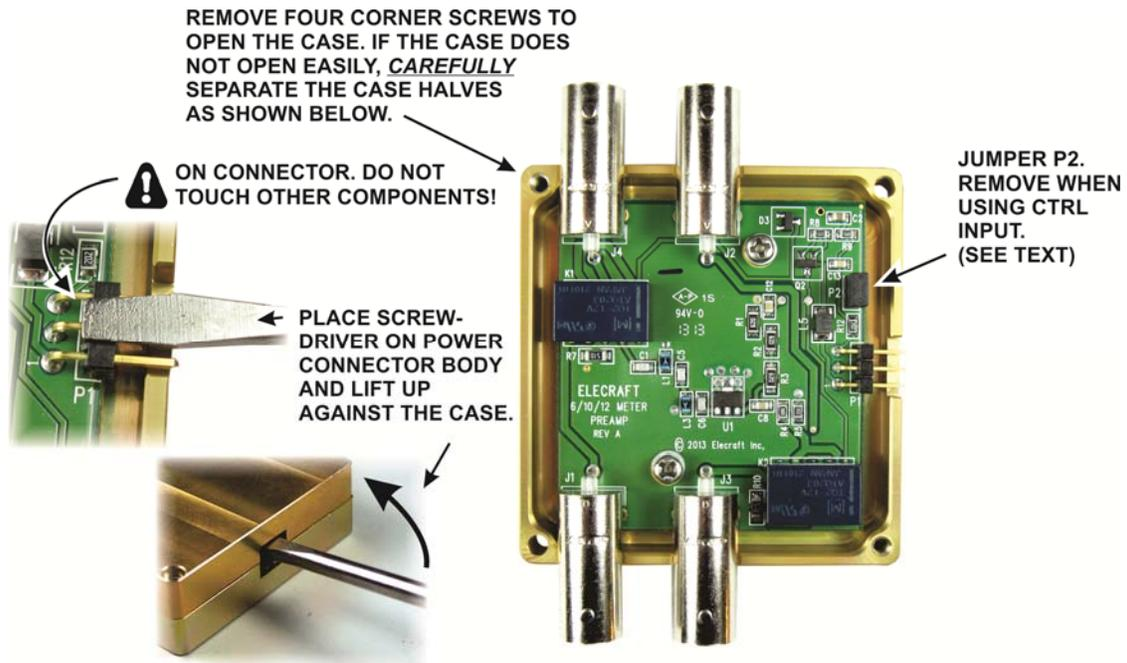

Figure 3. Jumper P2 Location.
When the control (CTRL) is used and jumper P2 is removed (see Figure 3), the K3 may be configured so that the preamplifier is switched on only when the desired bands are selected on the K3. Since power is switched off on other bands, the bypass connections are active and the preamplifier does not draw power. Configure the K3 as follows:
If the control (CTRL) line is not used and jumper P2 is installed (see Figure 3), the PR6-10 will be switched into the circuit when the RX ANT button is pressed. The bypass antenna connections are not available unless power is removed from the PR6-10.
- The preamplifier is switched into the circuit by applying +12 VDC to the unit if jumper P2 is installed or, if jumper P2 is removed, by applying +12 VDC and grounding the CTRL input. Jumper P2 is shown in Figure 3.